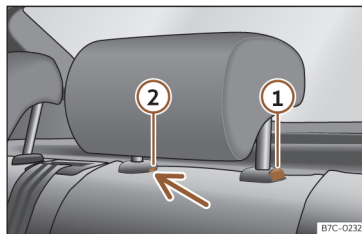

Fig. 88 Rear head restraint: removal.
- Press button >>> **Fig. 88** ①, while simultaneously pressing on the safety hole ② with a flat screwdriver a maximum of 5 mm wide, and remove the headrest.